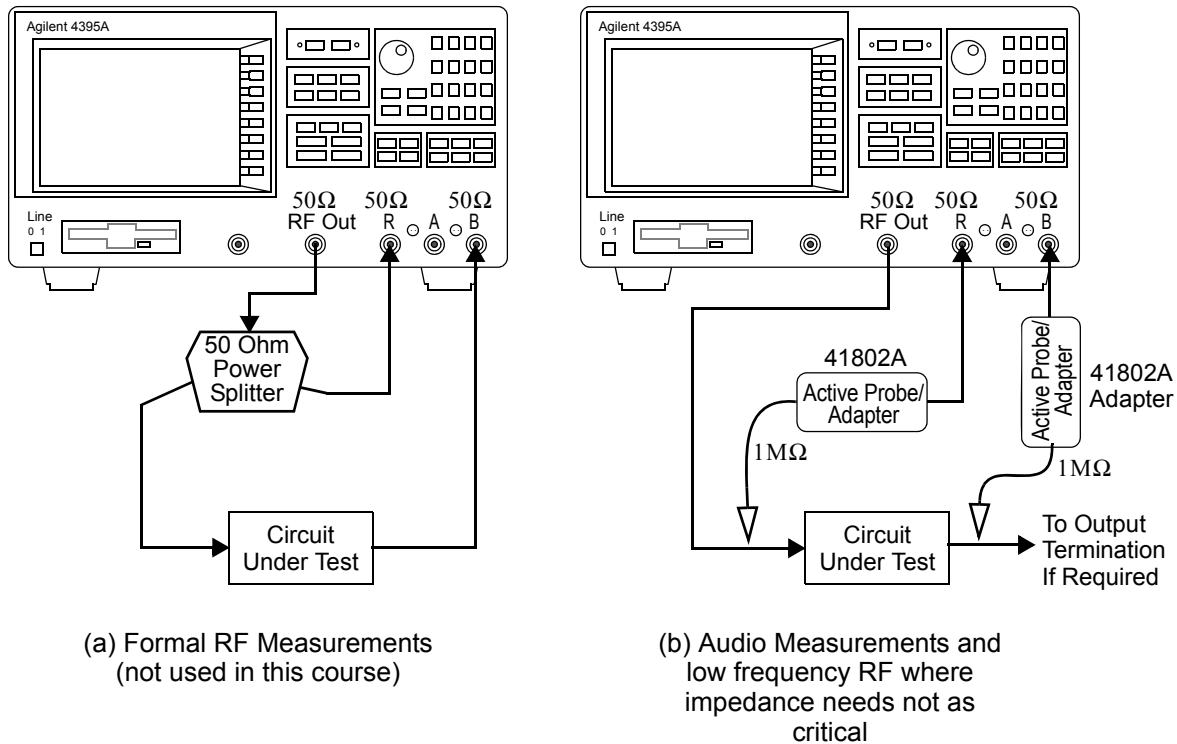

Figure 2: Agilent 4395A transmission measurement test setups
The front panel signal ports of the 4395A are designed for 50 ohm impedance level measurements (source and load resistances). Typical radio-frequency (RF) transmission measurement test setup are shown in Figure 2. For this course you will use the (b) configuration, since the circuit you test are below 100 MHz and the impedance levels are most often well above  $50\Omega$ .